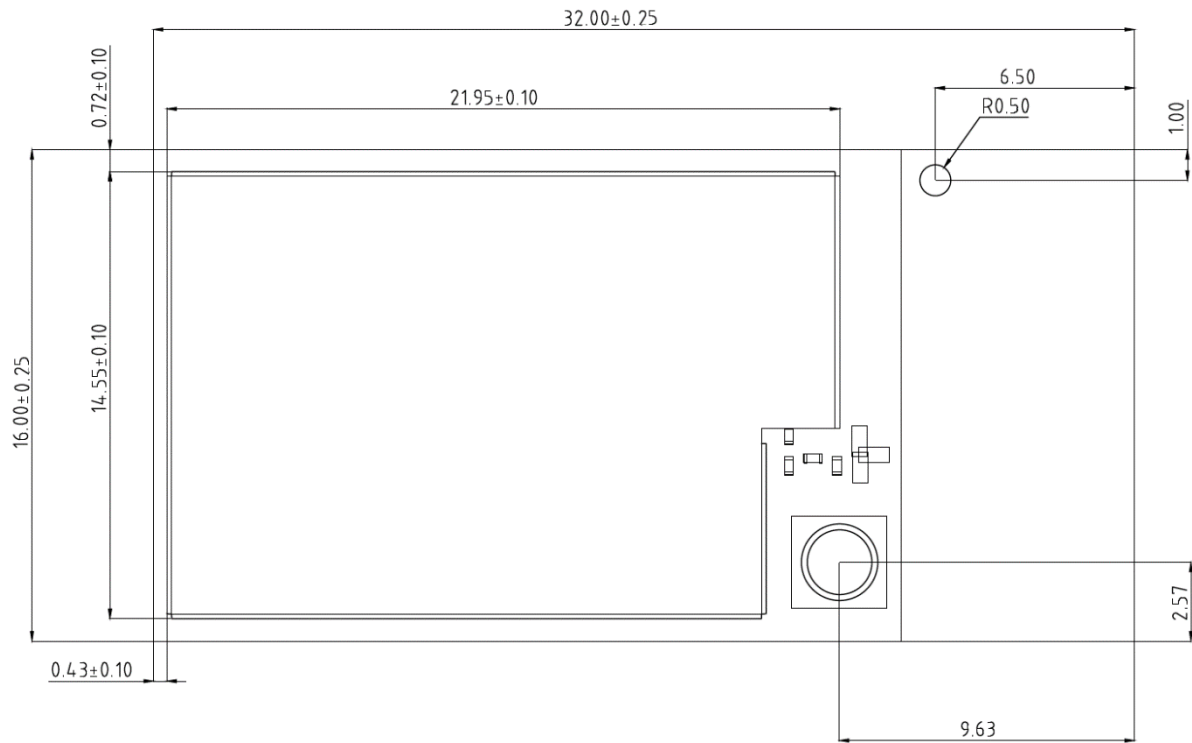

Figure 11 Top View
- (1) Cabinet type oven
- (2) Anti-static and high thermotolerant tray
- (3) Anti-static and high thermotolerant gloves
- Conditions of product storage (Storage environment is shown in figure 11):